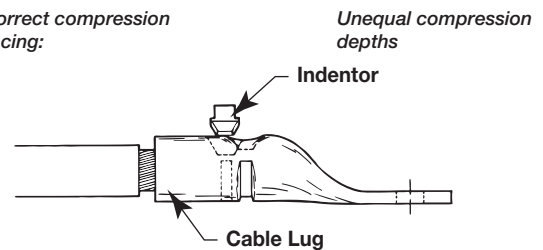

Fig. 4
6. Only one compression is required per connection, however additional compressions are acceptable if the connector barrel has adequate length. (See fig 4). For faster cycle times when performing multiple compressions, retract the indenter only as far as required for the next compression.